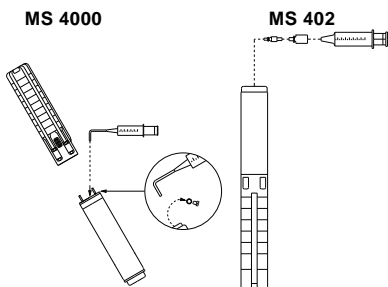

Fig. 1 Pump position during filling – MS 4000 and MS 402
1. Position the submersible pump as shown in fig. 1.
3. Inject liquid into the motor with the filling syringe, fig. 1, until the liquid runs back out of the filling hole.